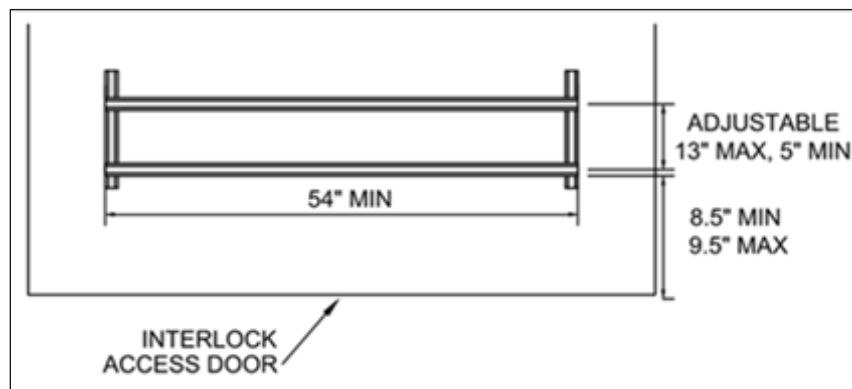

Figure 18: VT Mounting for 12.47 kV and 34.5 kV (STD-M-3003)
6. VT mounting base spacing must meet the requirements of EUSERC 407, as shown in Figure 18.
For 12.47 kV services, the VT compartment must meet the clearances shown in Figure 18.